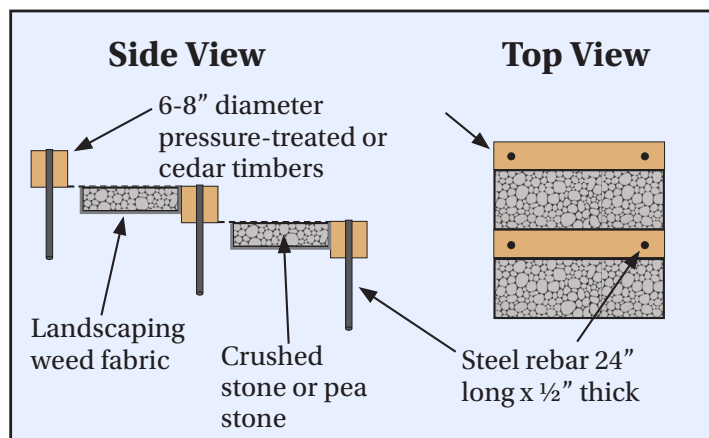

Figure 4
- Fill each step with 3/4" crushed stone or pea stone until it is about 1" below the top of the timber (Figure 4).